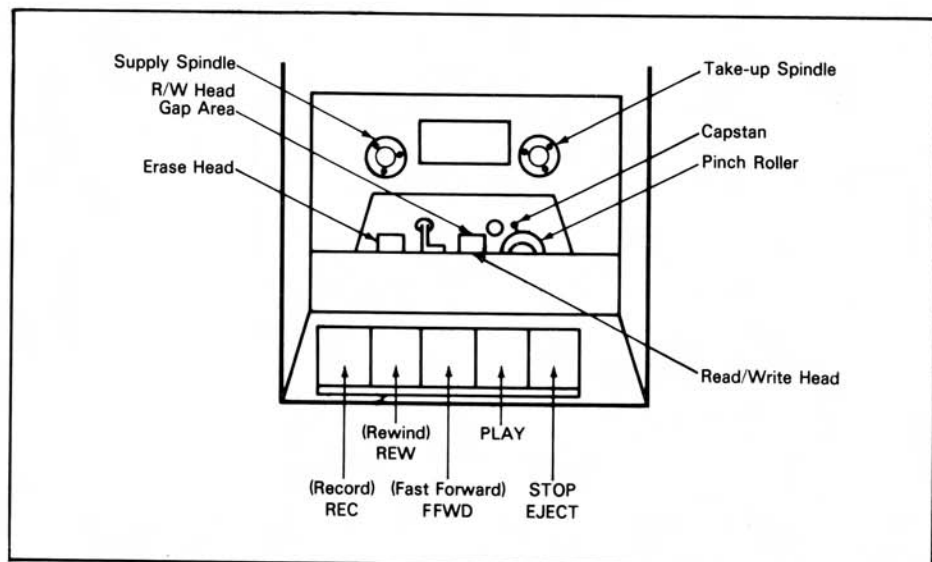

Figure 1-14. Mechanical Components on Cassette Unit
2. Open the cassette door on the top of the unit by pressing the STOP/EJECT key (or manually on the older models). While looking inside the unit, press the PLAY key. You should see the tape heads move out toward the spindles. The pinch roller should simultaneously move out, touch and rotate the capstan in a counterclockwise direction. The inside of the unit should look like Figure 1-14.